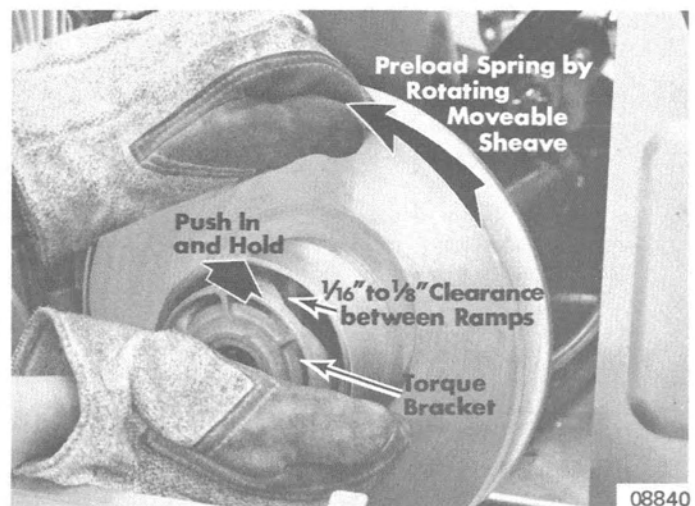

Figure 4. Installing Driven Sheave Torque Bracket
9. Push in on torque bracket (compressing spring) until  $\frac{1}{16}$ " to  $\frac{1}{8}$ " (1.6mm to 3.2mm) clearance is obtained between ramps. (Figure 4)
10. Apply snowmobile brake. Using marks made during disassembly as reference, rotate movable sheave approximately  $180^\circ$  (depending upon spring preload required) to apply preload to spring. (Figure 4) Press torque bracket past snap ring groove.